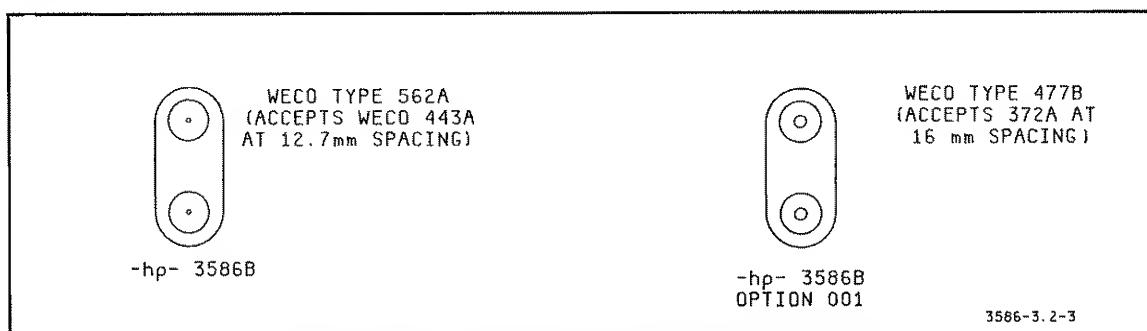

Figure 3-2-3. Connectors For The 124 Ohm Input.
**3-2-24.** This balanced input is used whenever the signal source circuitry needs to be terminated in 124 ohms. An input of 1mw causes an amplitude reading of 0dBm. All of the various connectors used on this input are illustrated and identified in Figure 3-2-3. A brief description of balanced measurements can be found in Paragraph 3-2-31.